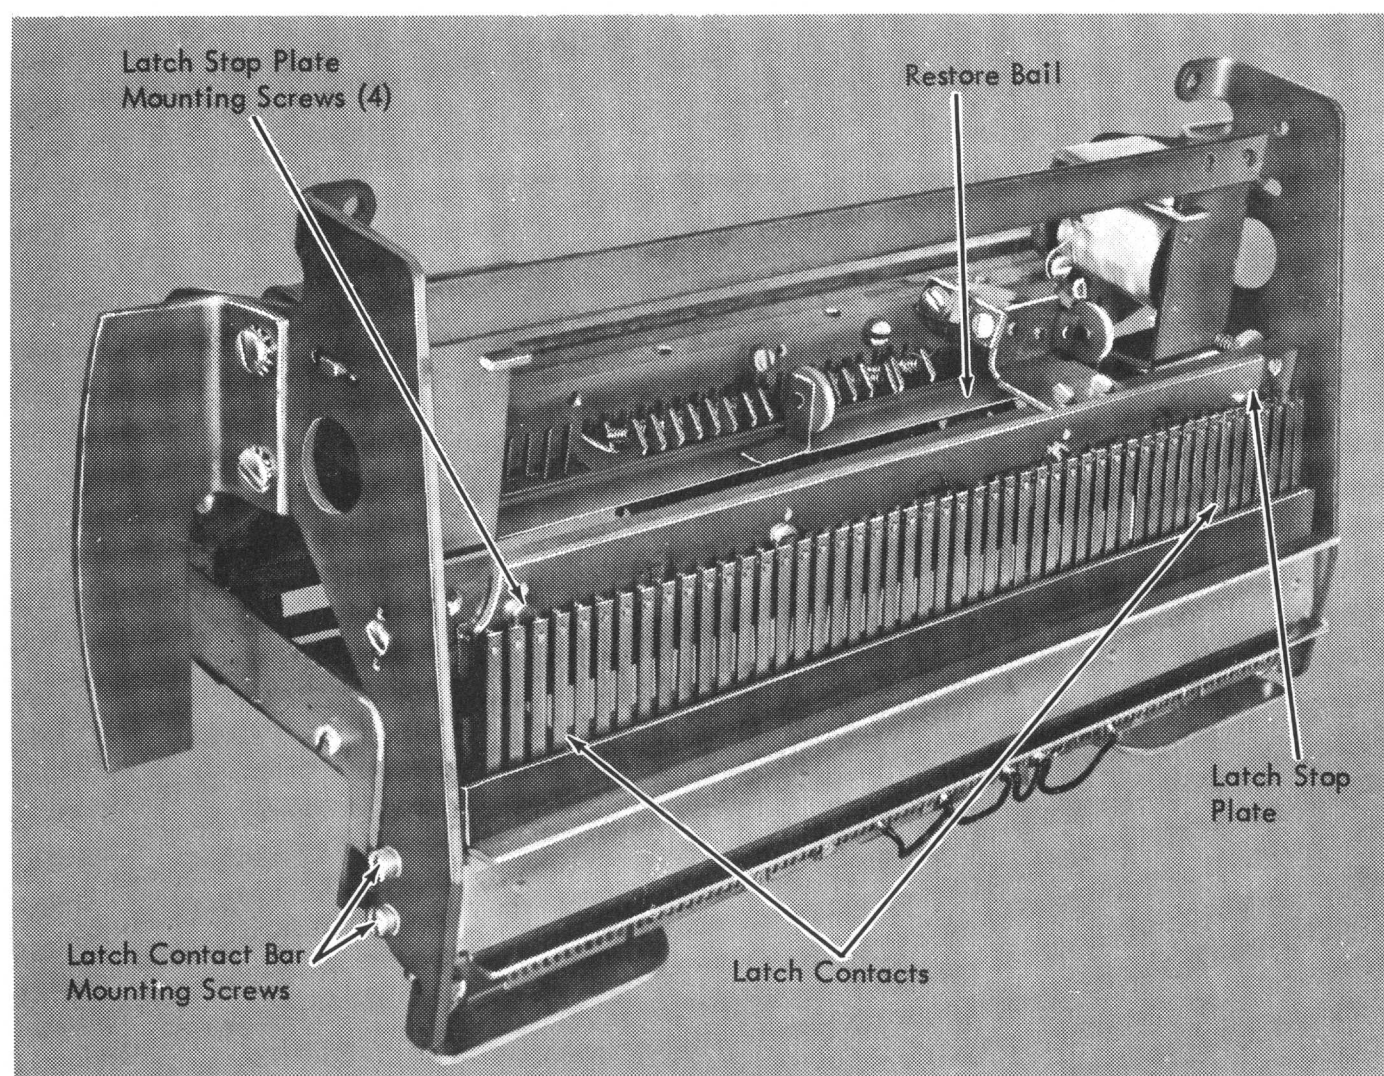

Figure 4-55. Keyboard Permutation Unit – Bottom
1. Loosen the four screws (Figure 4-55) that hold the key unit to the permutation unit.
8. Remove the four screws from the latch stop plate (Figure 4-55).